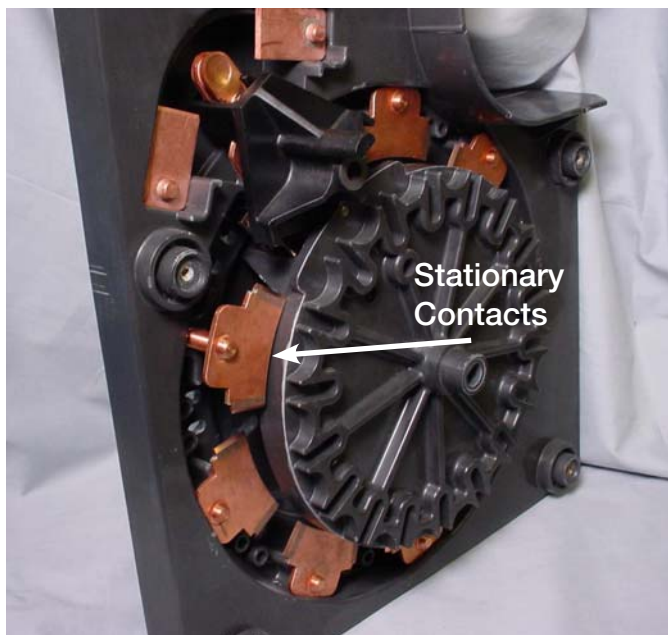

Figure 17.
2. Push the contact stud through the mounting hole in the contact panel. See Figure 17.
4. Insert the new stationary contact stud through the mounting hole for that number of stationary contact. Make sure that the stationary contact is aligned for proper fitting in the contact board assembly. See Figure 17.